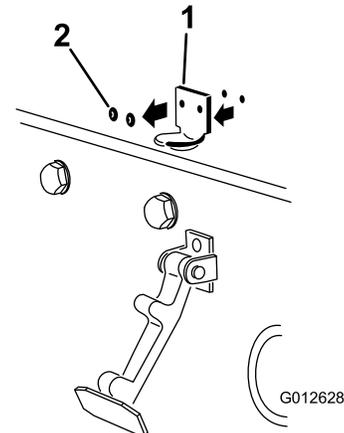

Figure 5
2. Remove the (2) rivets securing the hood latch bracket to the hood (Figure 5). Remove the hood latch bracket from the hood.